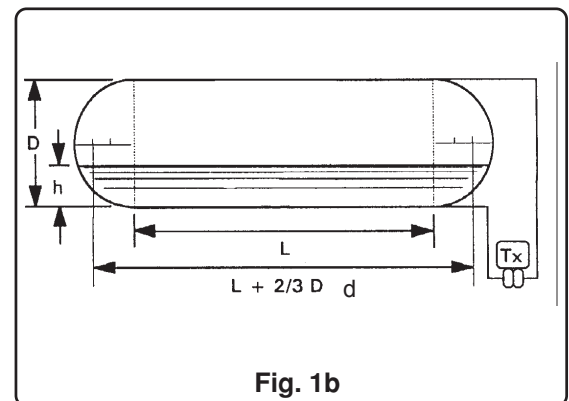

Fig. 1b
b) Cylindrical vessel with hemispherical ends (see Fig. 1b). Transmitter measuring the whole vessel heighth.